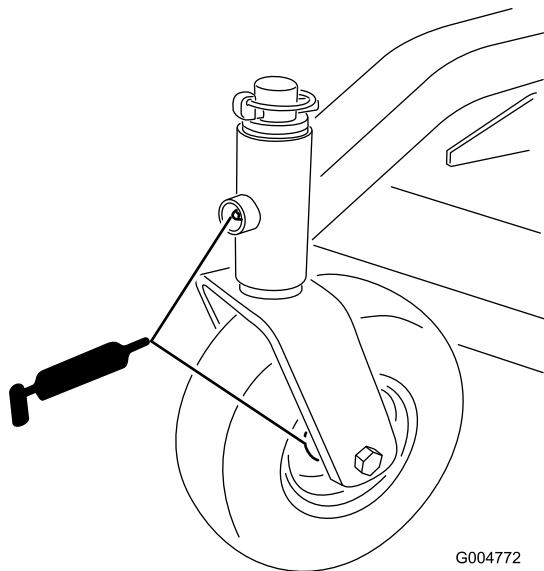

Figure 26
1. Lubricate the front caster wheel bearings and front pivots (Figure 26).
4. Remove the rear wheel grease cap. Lubricate the rear wheel bearing (Figure 26).